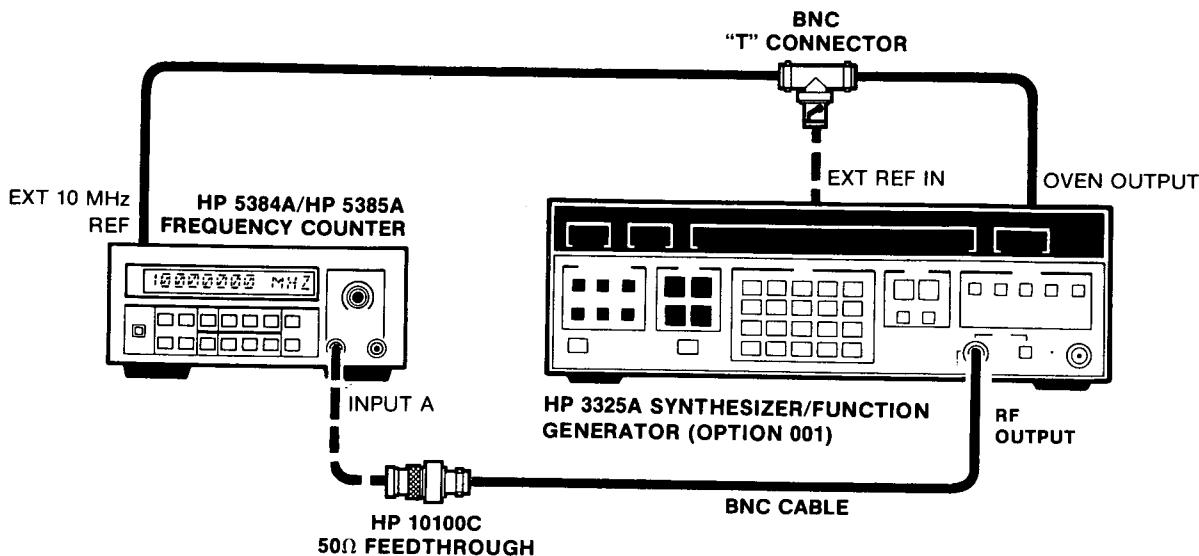

Figure 4-6. Channel A Filter and Attenuator Test Setup
- b. Connect the HP 3325A Synthesizer/Function Generator to the HP 5384A/HP 5385A Channel A input as shown in *Figure 4-6*.